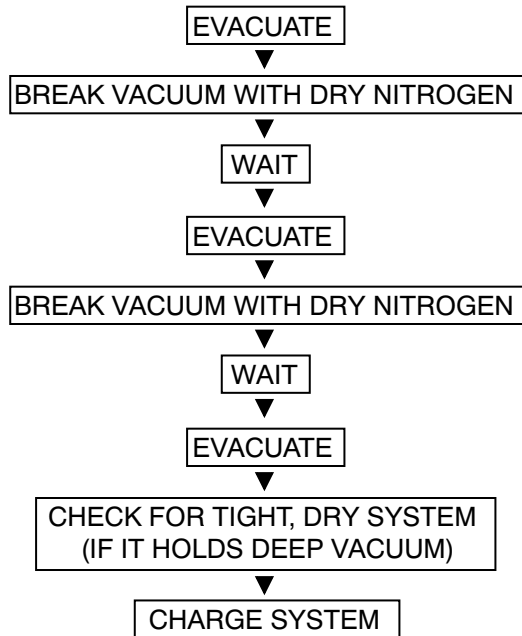

Fig. 37 – Triple Evacuation Method
The triple evacuation method should be used when vacuum pump is only capable of pumping down to 28 in. of mercury vacuum and system does not contain any liquid water. Refer to Fig. 37 and proceed as follows:
5. Repeat this procedure as indicated in Fig. 37. System will then be free of any contaminants and water vapor.